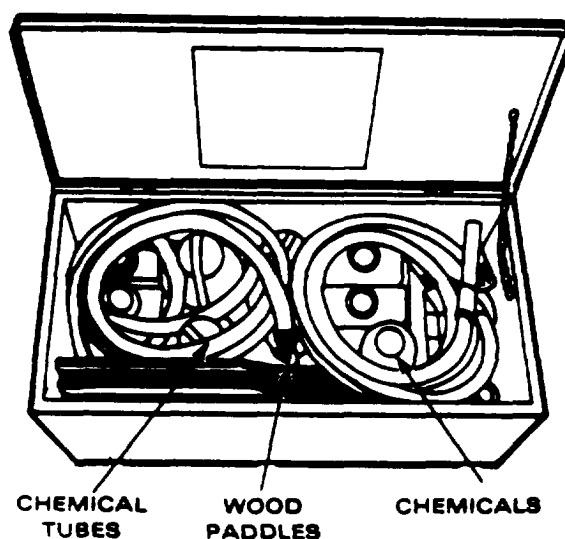

Figure 2-32. Wood Paddles and Chemical Tubes
q. (See fig. 2-32) Connect the backwash water tank hose to suction side of backwash pump. Connect backwash water line to discharge side of backwash pump. Start at the ROWPU and work toward the tank in making connections.